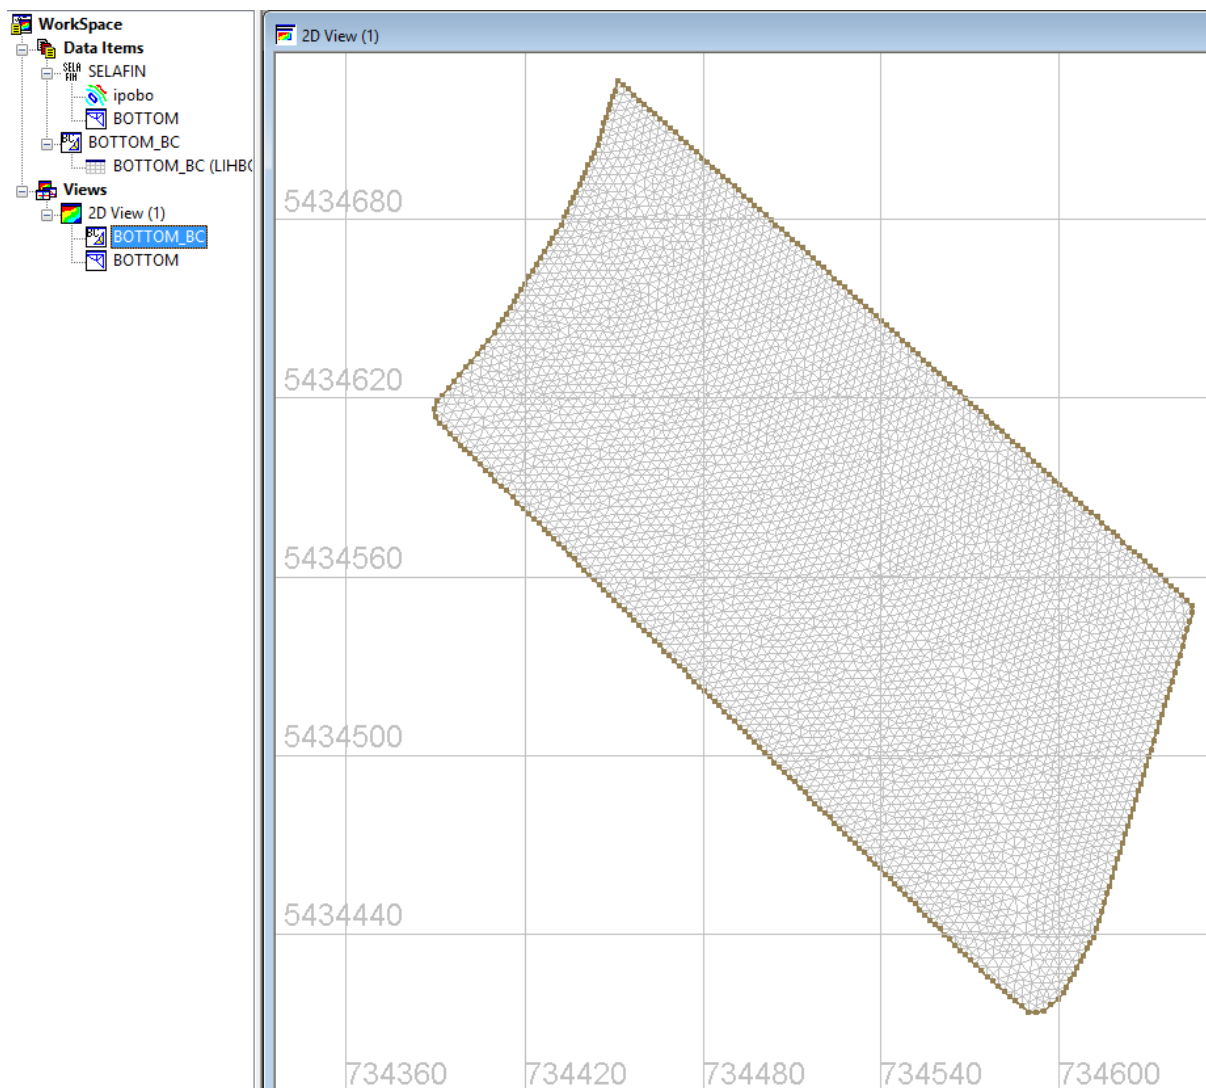

Figure 5: Creating a Conlim object.
3. To check the newly created Conlim object, pull it on the section "2D Views" under "Views" (see Figure 5)